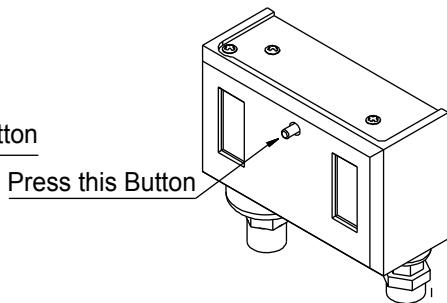

Figure 26
- 2 ` Open the rear cover, find the refrigerant pressure switch, and press "RESET" button. (See Figure 26)